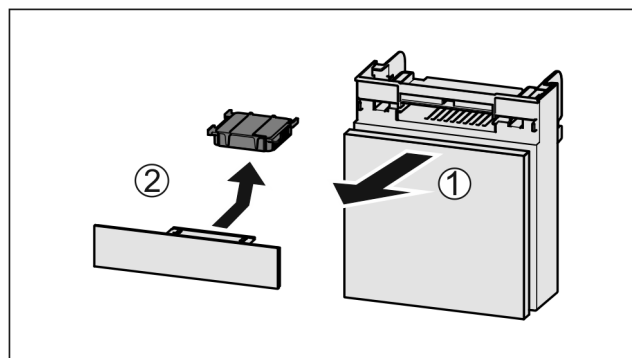

Fig. 151
- Pull out the compartment Fig. 151 (1).
- Remove the carbon filter Fig. 151 (2).